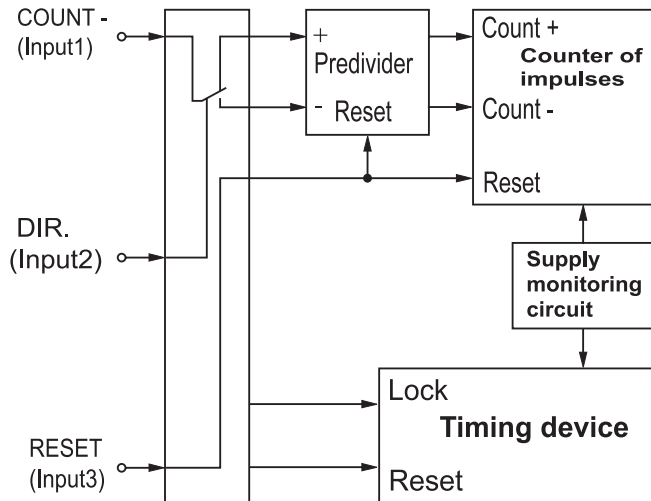

Figure 13. Up/down count with common count input, count direction set by external signal and external reset
3.1.7.5. **Up/down count with external re-set and direction set by external signal** is set at **inP=4** (figure 13).